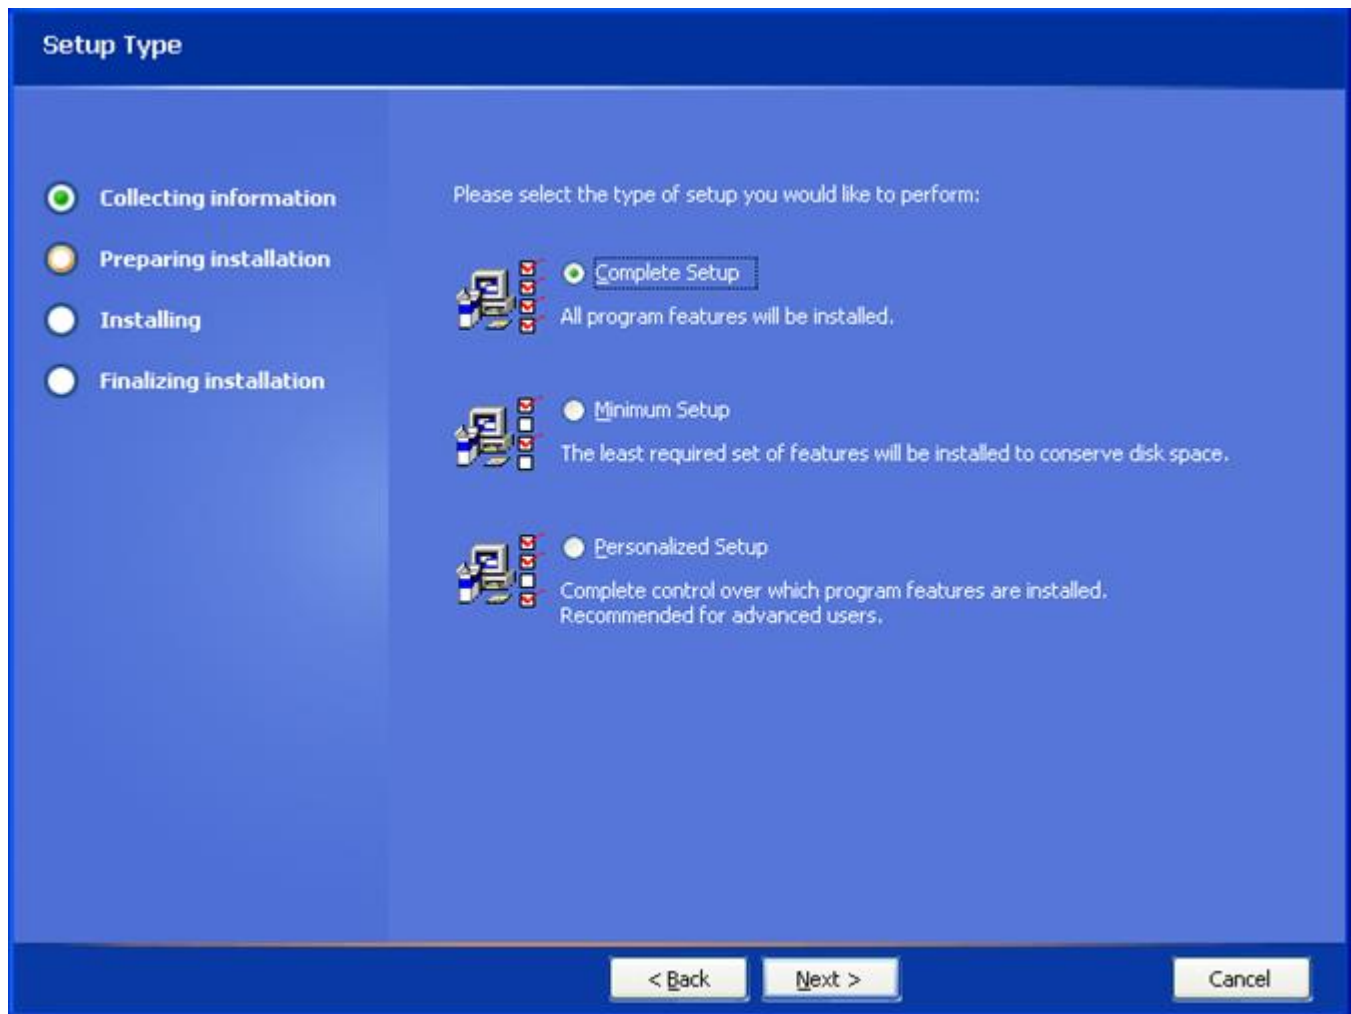

Figure 65 - Setup Type Screen
8. Click on the **Next** button. The **Setup Type** screen (Figure 65) appears.